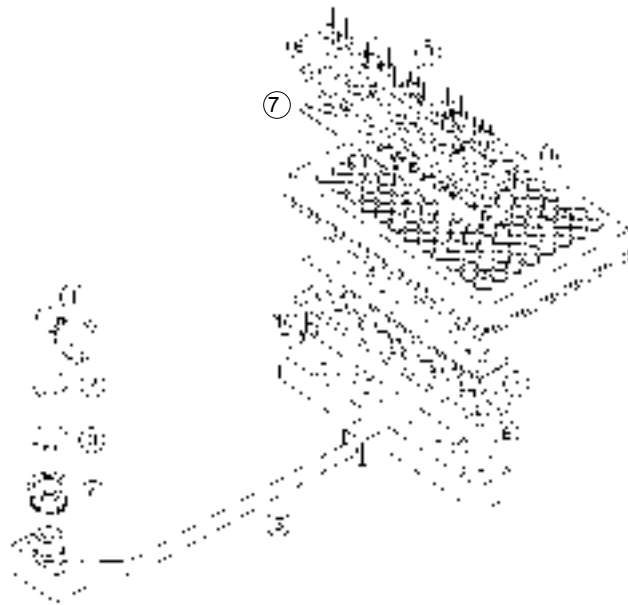

Figure 1. Optical Path of the Reader
Figure 1 illustrates the optical path through the Reader. A tungsten halogen lamp projects a light beam through a heat absorbing filter and a lens. The beam is focused by the lens and passes through a filter (located on the filter wheel), which allows only light of the desired wavelength range to pass. The beam is then separated into 13 channels, one of which is used as a reference channel to monitor the light output of the lamp. The other 12 beams are directed upwards through a row of 12 wells on the microplate, onto an array of silicon photodiodes. The silicon photodiodes quantify the intensity of light transmitted through the reaction solution. Absorbance of the solution is measured in terms of optical density (OD) and the assay results are interpreted accordingly.